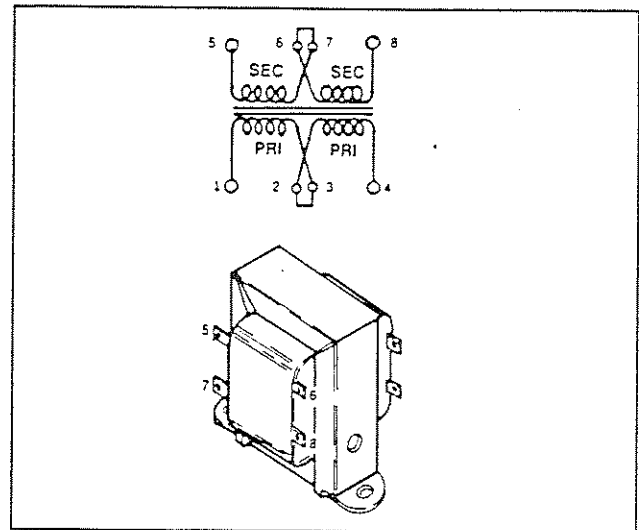

Figure 17. The CMA Transformer
1. See Figure 17. Connect an AC voltmeter across transformer terminals 1 and 4. Normal "Utility" power source voltage should be indicated.